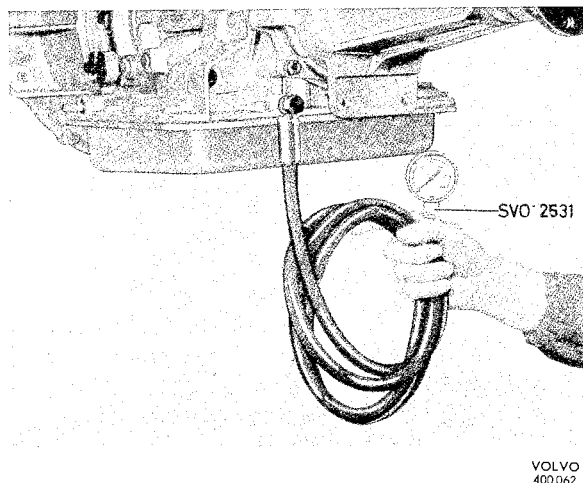

Fig. 4-67. Connecting pressure gauge
1. Connect a tachometer to the engine and pressure gauge to the transmission as shown in Fig. 4-67.
2. Block the wheels and apply the brakes. Start the engine and move the lever to "D". Read off the pressure at 8.3 and 16.6 r/s (500 and 1000 rpm). At 16.6 r/s (1000 rpm) the gauge to the transmission as shown in Fig. 4-67, pressure should be 1.8–2.1 kp/cm2 (25–30 psi) higher than at 8.3 r/s (500 rpm). If the pressure rise is less than 1.8 kp/cm2 (25 psi), the effective length of the outer cable should be increased by means of the adjuster. Conversely, if the rise is more than 2.1 kp/cm2 (30 psi) the effective length of the outer cable should be decreased.